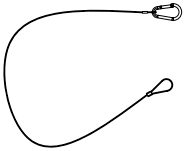

Fig. 13
1. Wire rope is necessary for the 100w/150w luminaire (Figure 13).